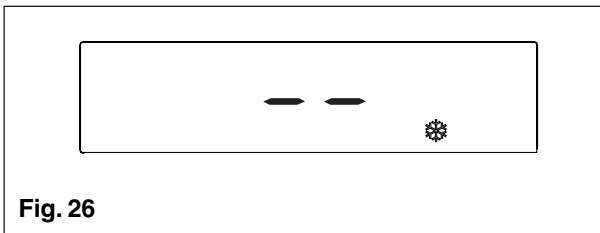

Fig. 26
- anti-freeze (fig. 26): when the temperature of the water in the boiler falls below safety values, the circulator and the burner work at minimum power to increase the water temperature to a safe value (35 °C). The symbol lights up on the display.